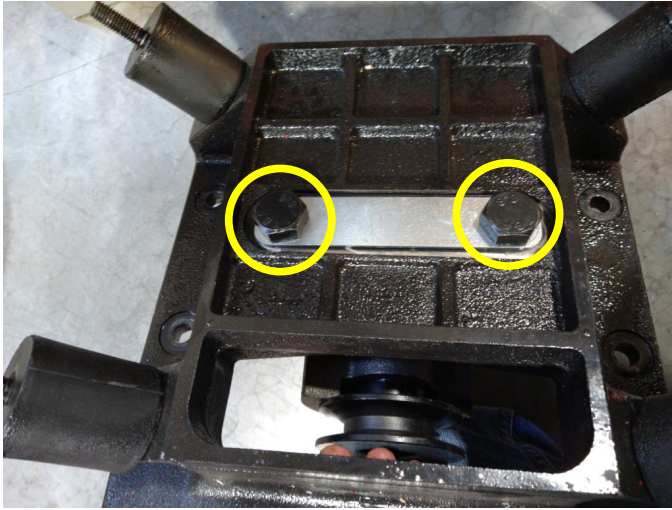

Fig. 8: Remove these bolts (top of assembly).
9. Use the 27mm socket and adjustable or combination wrench to remove the two mounting bolts and nuts from the vibrating assembly (Figs. 8 & 9). You may need a breaker bar or impact wrench to remove the nuts and bolts.